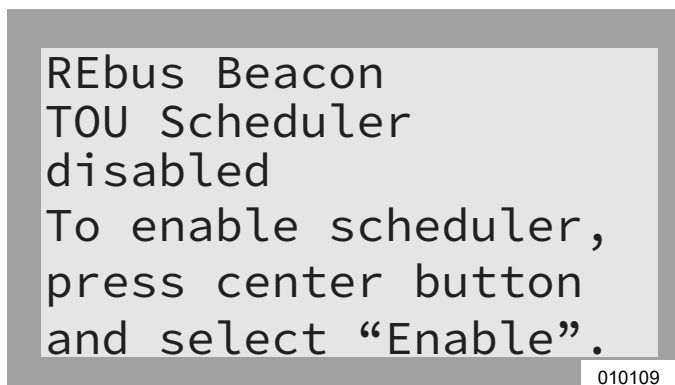

Figure 6-14. Configuring TOU Schedule (1 of 4)
1. See Figure 6-14. Navigate to the Beacon device page and press the center button to enter the device menu.